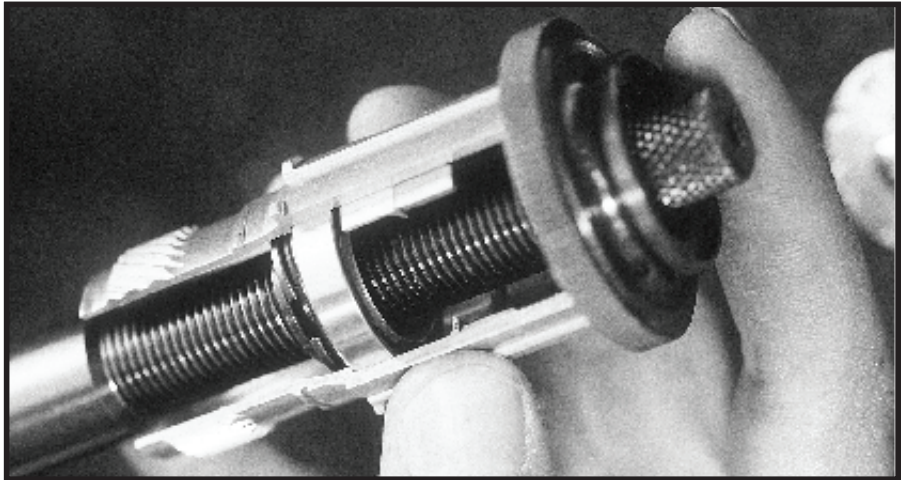

Figure 25 - remove drive shell bearing
10. Holding extension shaft stationary, screw T-handle into extension shaft to fully expand split-ring. Then slide it up against the bearing and advance knurled ring to hold everything snug. (See figure 25.)